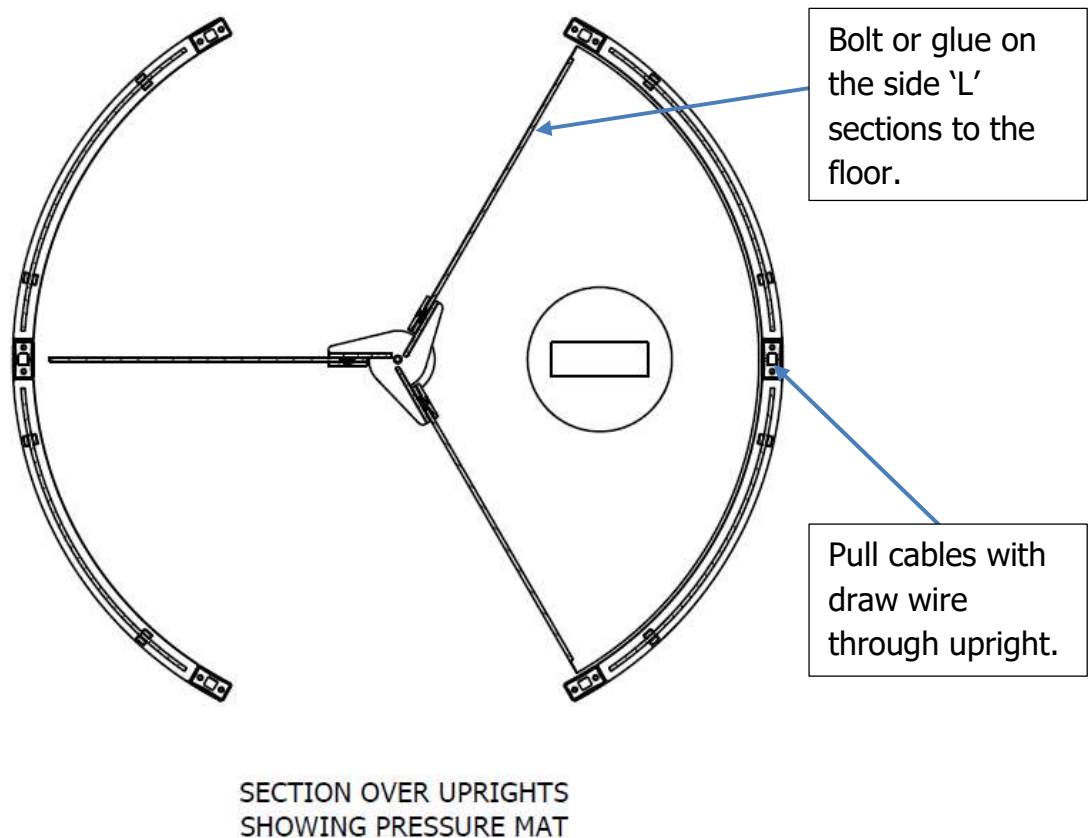

**Figure 21: STEP 9 – Side Glass Assembly**
- 5.32. Place the bottom covers first to cover up the bolting holes. Use contact adhesive to glue the plate down. See *Figure 21*.